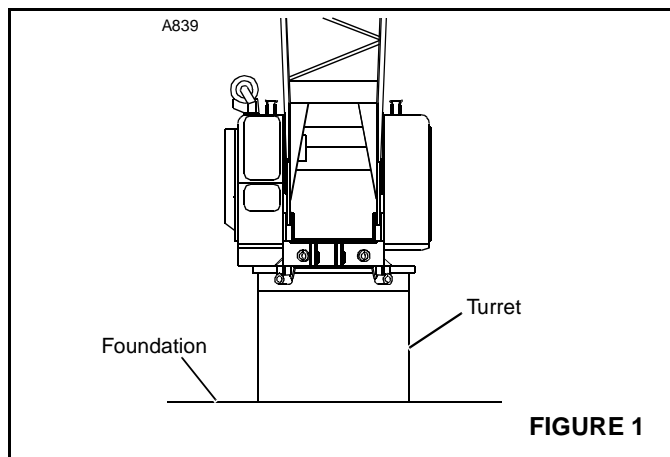

FIGURE 1
1. Crane upperworks mounted on a turret (or tub) which is securely fastened to the foundation (Figure 1).